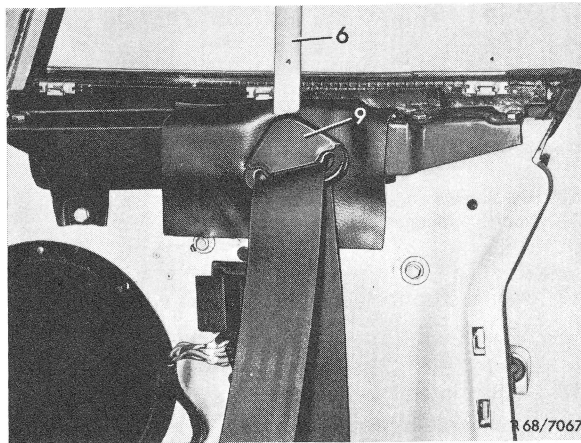

Fig. 1
- 2 Remove cap (9) from safety belt by means of plastic wedge (6) (Fig. 1).